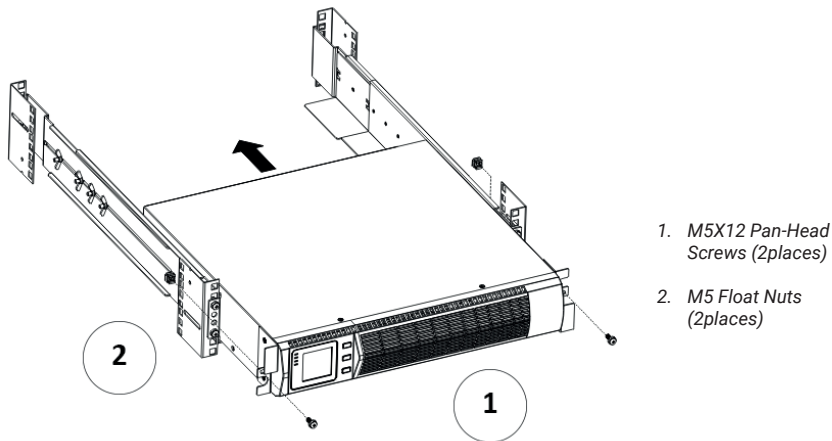

FIG 6: Securing the Front of the Cabinet
12. Secure the front of the UPS to the rack using one M5x12 pan-head screws and one M5 cage nuts on each side (see FIG. 6). Install the bottom screw on each side through the bottom hole of mounting bracket and the bottom hole of the rail.